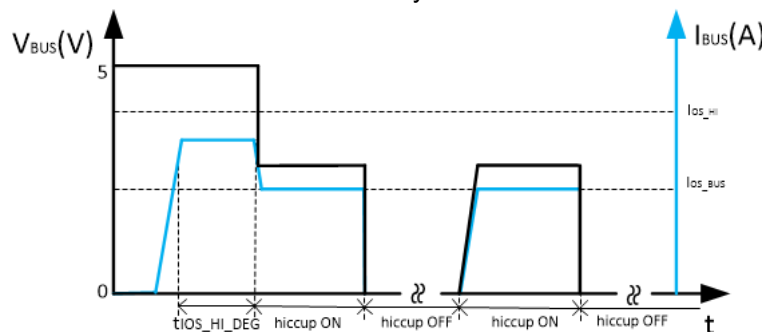

图 10-6. BUS Overcurrent Protection
- The second condition is the load current increases above I_{OS_BUS} but below the I_{OS_HI} setting. The device allows the USB port to output this large current for $t_{IOS_HI_DEG}$, without limiting the USB port current to I_{OS_BUS} . After the $t_{IOS_HI_DEG}$ deglitch time, device will limit the output current to I_{OS_BUS} and works in a constant current-limit mode. If the load demands a current greater than I_{OS_BUS} , the USB output voltage decreases to $I_{OS_BUS} \times R_{LOAD}$ for a resistive load, which is shown in 图 10-6. If the overcurrent limit condition lasts longer than 4.1 ms, the corresponding USB channel enters hiccup mode with 524 ms of off-time and 4.1 ms of on-time. Another USB channel still works normally.